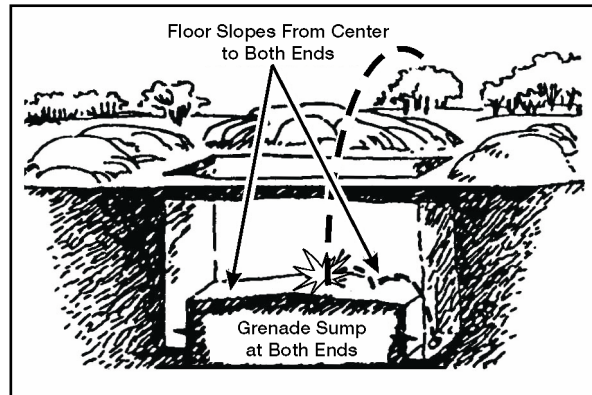

Figure 071-326-5703-6. Two trench-shaped grenade sumps
- (1) Place one at each end of the position.
- (2) Make the trenches as wide as an entrenching tool blade, as deep as the entrenching tool, and as long as the position is wide.
- j. Slope the floor toward the sumps (figure 071-326-5703-6).